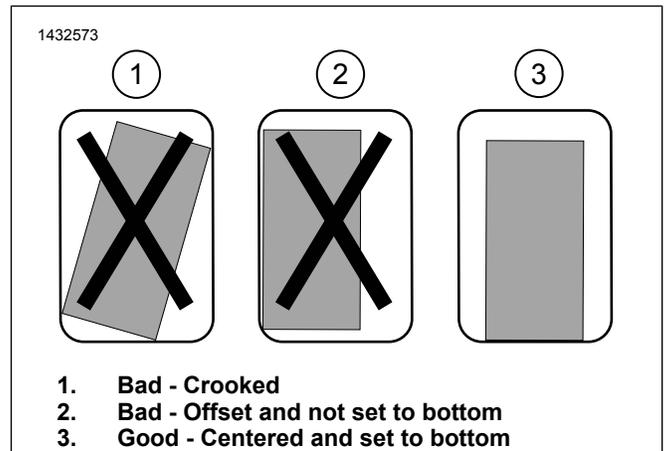

Figure 11. Mount Bracket Installation
- a. Figure 11 Test fit mount bracket. Bracket must be straight, centered, and as close to the bottom of the saddlebag as possible.
- c. Figure 11 Test fit for final location ensuring bracket is straight, centered, and as close to the bottom of the saddlebag as possible.